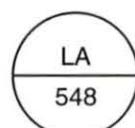

Figure 69. Instrument Tag
8. Determine the measured variable and function of the device using the instrument tag in figure 69.